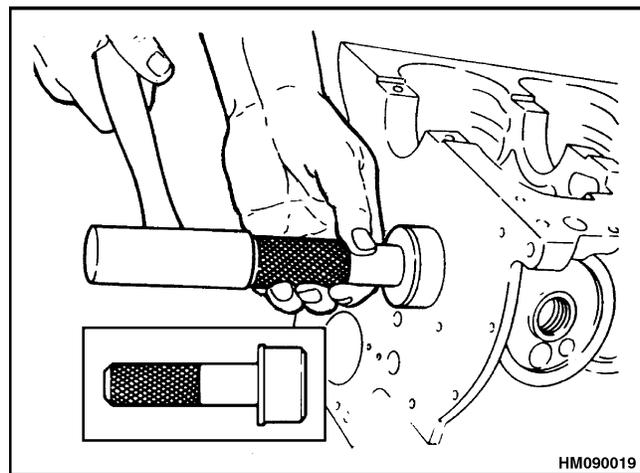

Figure 19. Camshaft Bearings Replacement
3. Install the head of the special tool on the end of a driver. Remove the front and rear bearings by pushing them toward the center of the engine block. See Figure 19.
1. Install the front and rear camshaft bearings first. These bearings will be guides for installation of the intermediate bearings. See Figure 19. Use the special tool to install the front and rear camshaft bearings.